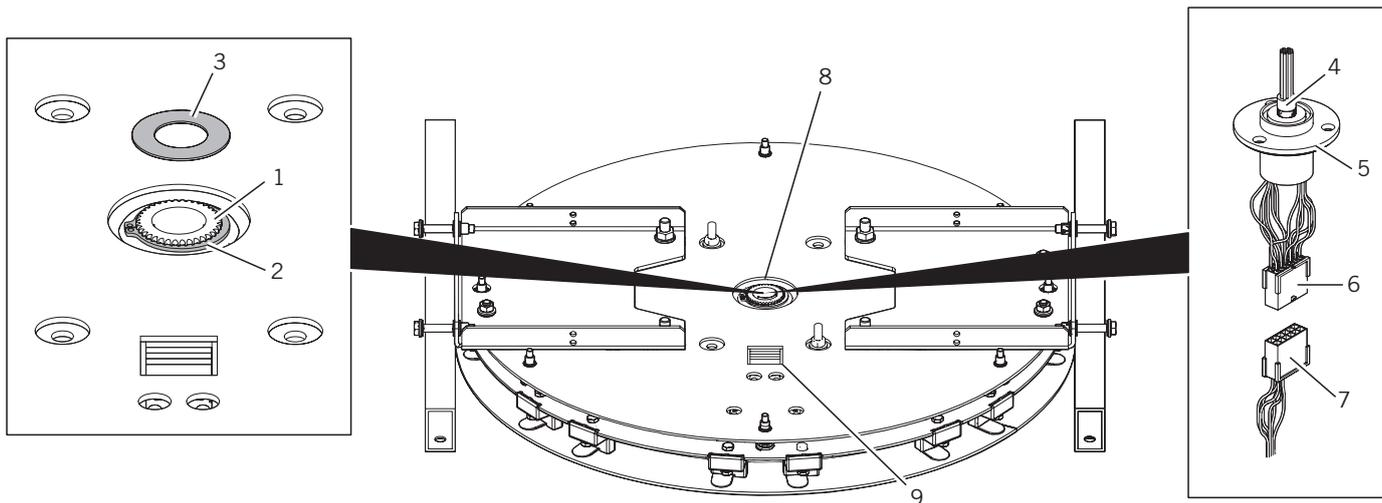
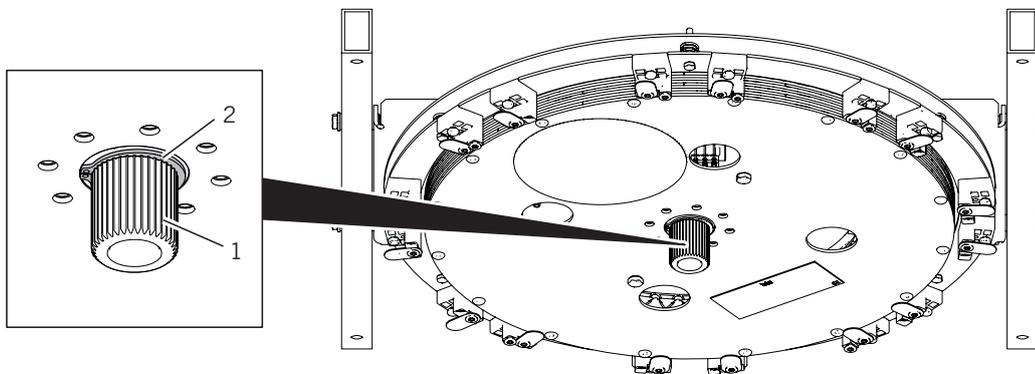

Fig. 62 Operator (top view)
Fig. 63 Operator (bottom view)
6. Lubricate the lower tothing of the toothed shaft (Fig. 63/1), insert into the operator center (Fig. 62/8) and secure with 2 securing rings (Fig. 62/2 and Fig. 63/2).
7. Clean the top side of the inserted toothed shaft (Fig. 62/1) with a cloth and degreaser.
8. Remove the foil from the adhesive side of the Velcro ring (Fig. 62/3) and fix to the toothed shaft.
10. Let the slip ring cable hang down next to the operator (on the motor / Hall sensor connector Fig. 62/9 side) and connect it to the control unit after the motor is installed.
11. Connect the motor and Hall effect sensor cables to the operator (Fig. 62/9).